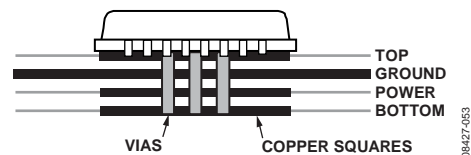

Figure 54. Exposed Pad Layout Example, Side View
- A copper layer equal in size to the exposed pad should be on all layers of the board, from top to bottom, and should connect somewhere to a dedicated copper board layer (see Figure 54).